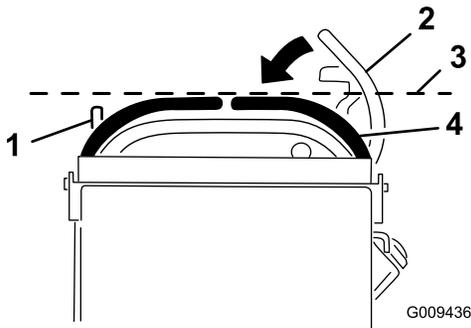

Figure 67
3. Push the right motion control lever down out of locked neutral position (Figure 67).
4. Check if it aligns horizontally with the left motion control lever (Figure 67).